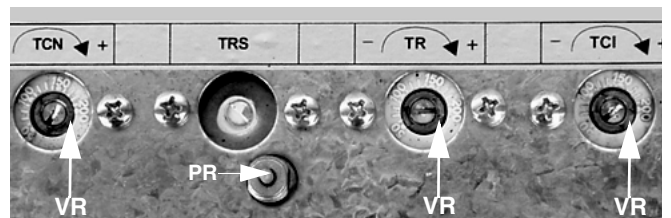

Fig. 18
**TCN - Oil enabling thermostat (Fig. 18)**
**TRS - Resistor safety thermostat (Fig. 18)**
**TR - Resistor thermostat (Fig. 18)**
**TCI - Installation enabling thermostat (Fig. 18)**